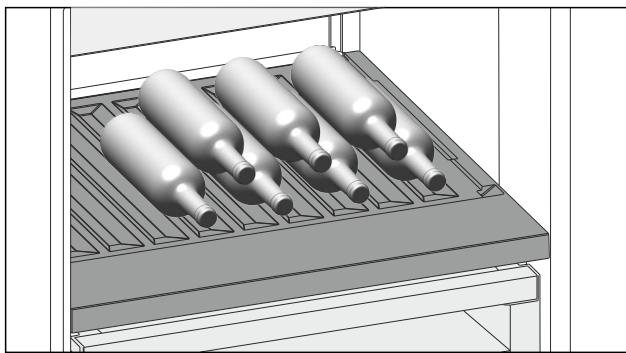

Fig. 132
- ▶ Place bottles in the back row with their bases against the back wall. (see Fig. 132)